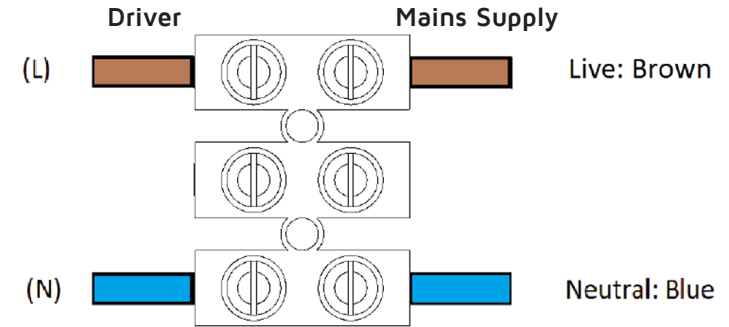

Fig.2
**Step 2:** Connect the power to Driver. (Fig. 2)